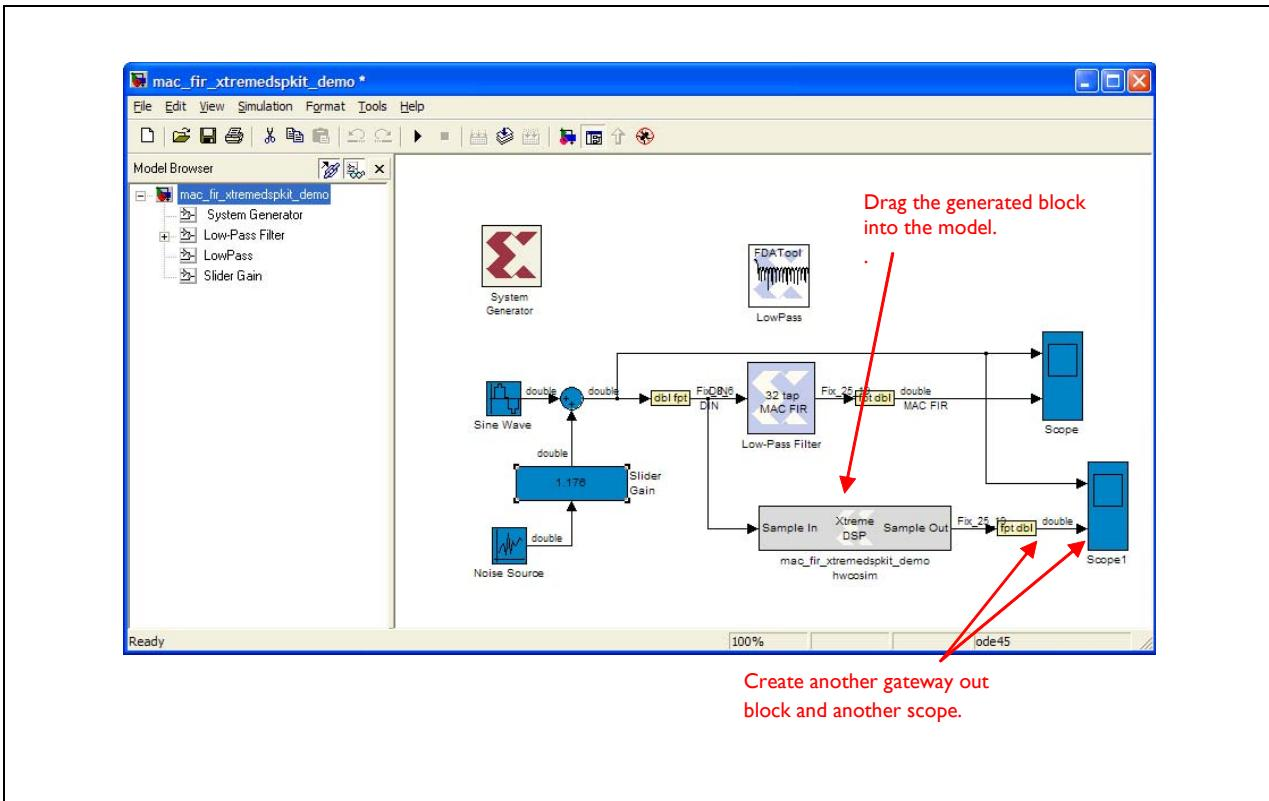

Figure 131: Adding the Runtime Cosimulation Block to the Model
4. Drag the generated block into the 'mac_fir_xtremedspkit_demo' model. Connect an output gateway block and another scope as shown in Figure 131 on page 207.